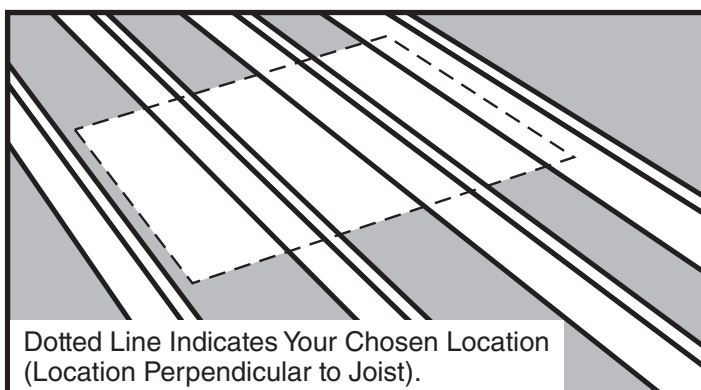

Figure 8
(B) If the chosen location is perpendicular to the joists, mark the rough opening width on top of the joists (See Figure 8).